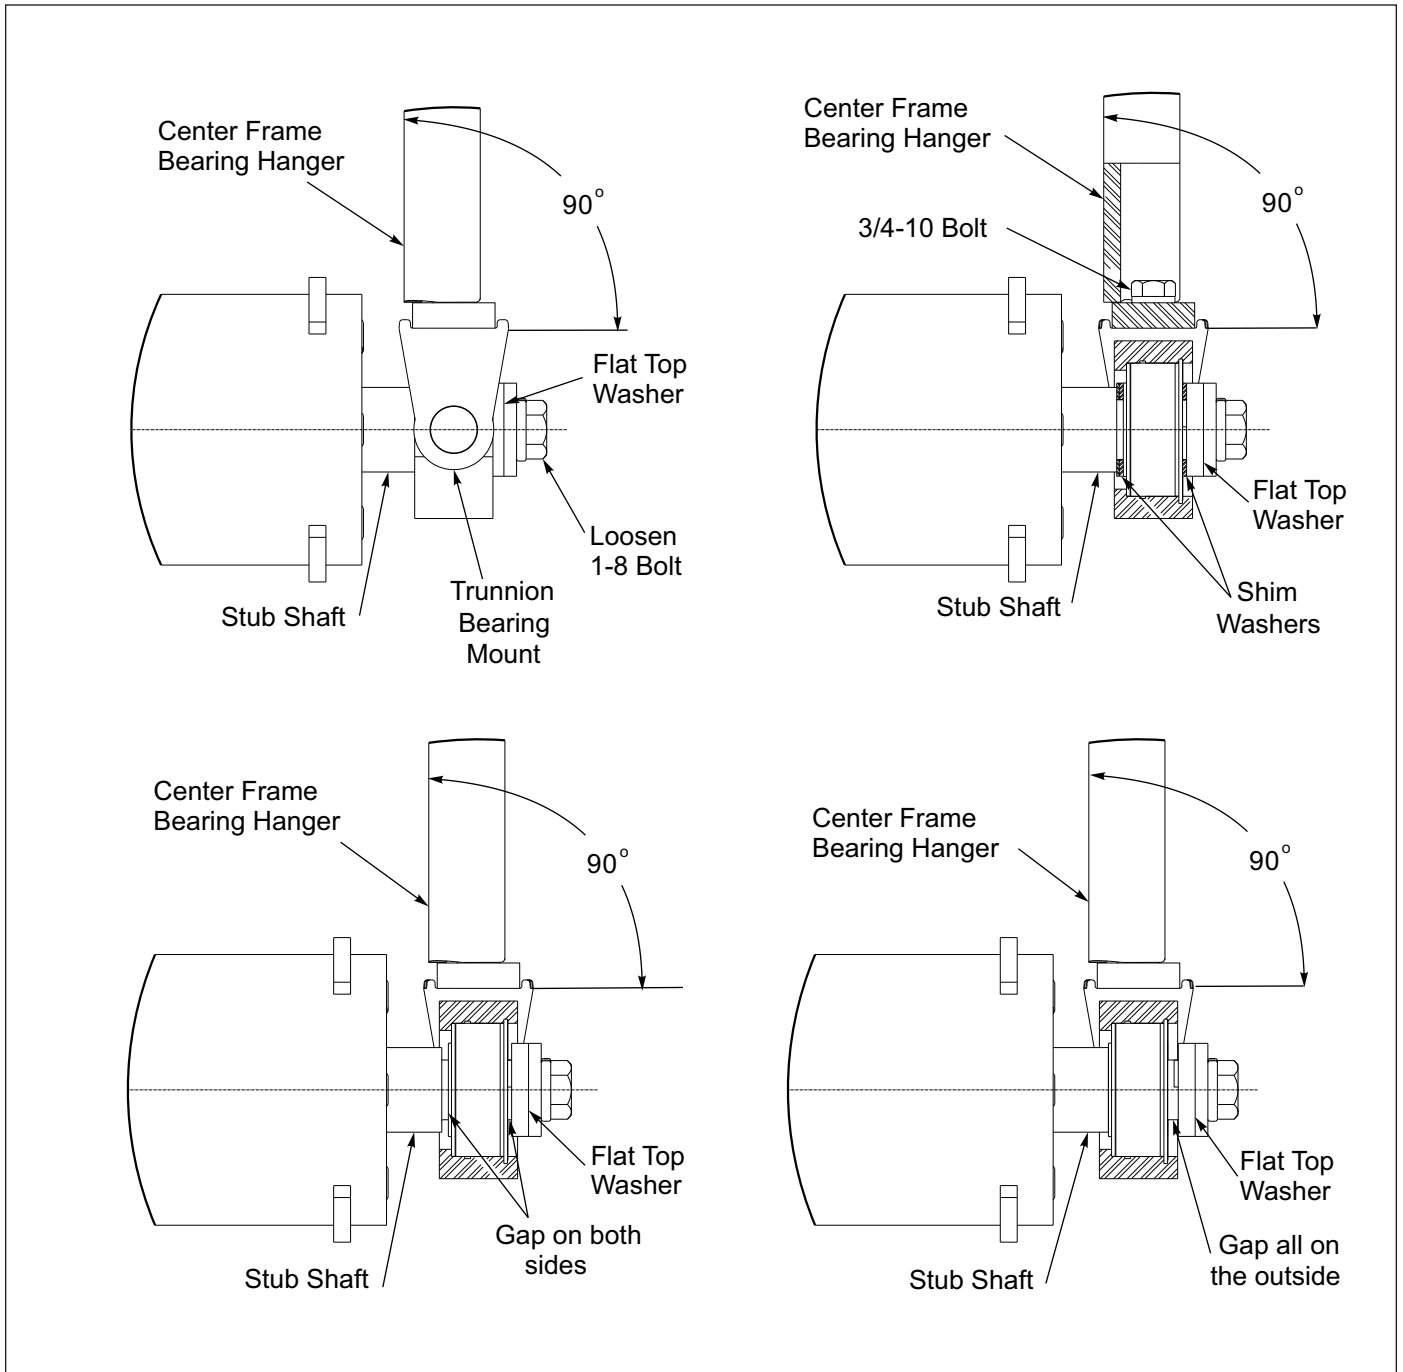

Figure 4-4: Trunnion Spacing
2. Look at each Trunnion Bearing Mount to make sure that it is sitting perpendicular to the Center Frame Bearing Hanger. If not adjust the Shim Washers accordingly, for each side there are two 11ga and one 14ga Shim Washers. Shim Washers can be all three on the inside between the Stub Shaft shoulder and the Trunnion Bearing, all three can be on the outside between the Trunnion Bearing and Flat Top Washer, or a combination on either side, but all three must be used to minimize the gap. If gap cannot be properly minimized with bearing snap rings to outside, turn bearing around to have snap ring to inside. The bearing inner race is offset with respect to the trunnion bosses by 1/32". By installing bearings with snap rings in versus out, 1/16" difference can be made up at assembly if needed. **See Figure 4-4.**